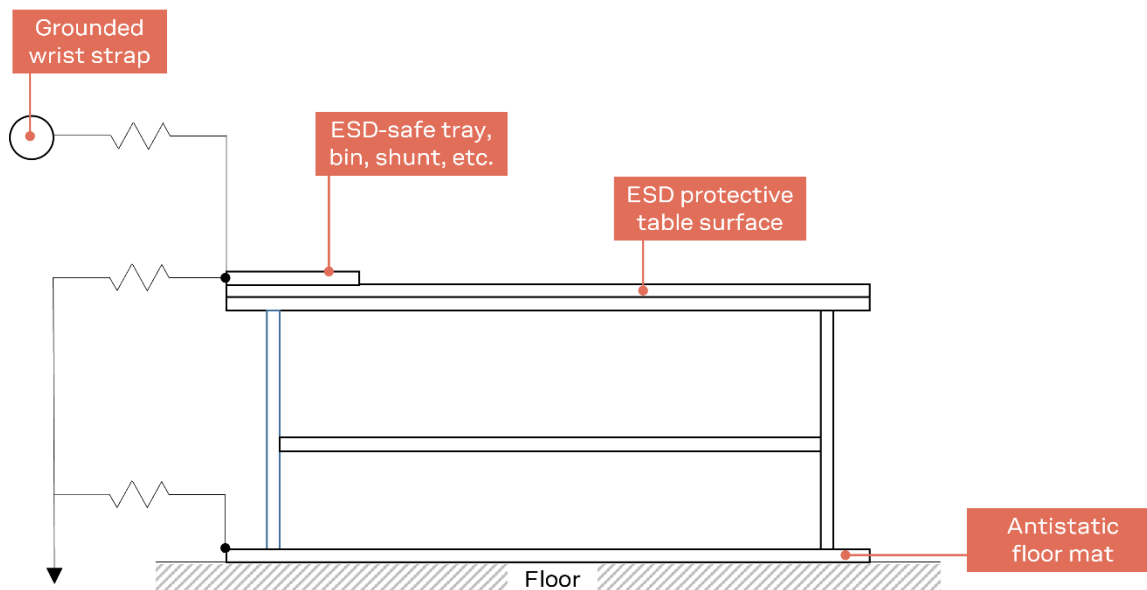

Figure 24: Standard workstation setup for safe handling of ESD-sensitive devices
**⚠** As the risk of electrostatic discharge in the RF transceivers and patch antennas of the module is of particular concern, standard ESD safety practices are prerequisite. See also Figure 24.